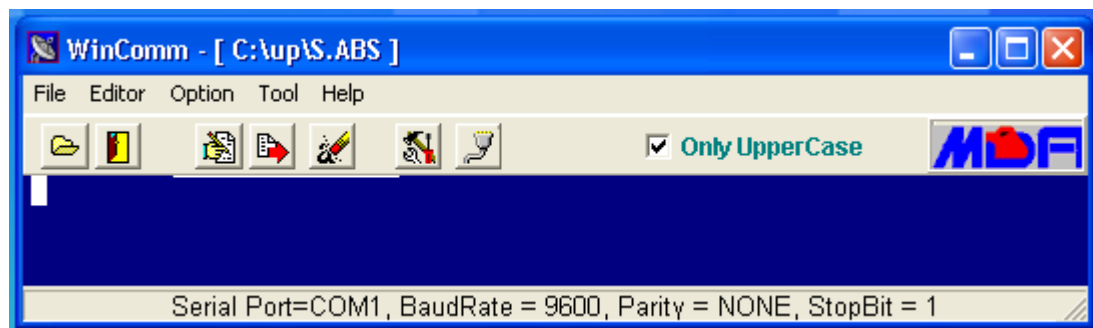

Fig. 1.6 WinComm Window.
- b) Run WinComm program from Windows. A blank window will open as shown in Fig. 1.6.